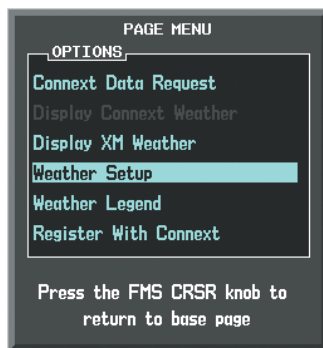

Figure 6-61 Weather Data Link (CNXT) Page Menu
- 3) With 'Weather Setup' highlighted, press the **ENT** Key (Figure 6-61).